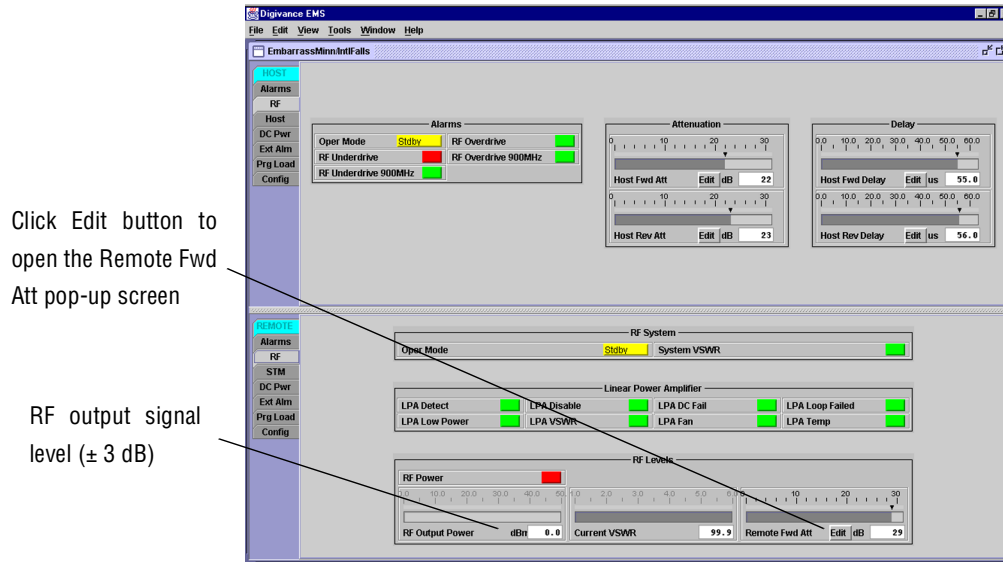
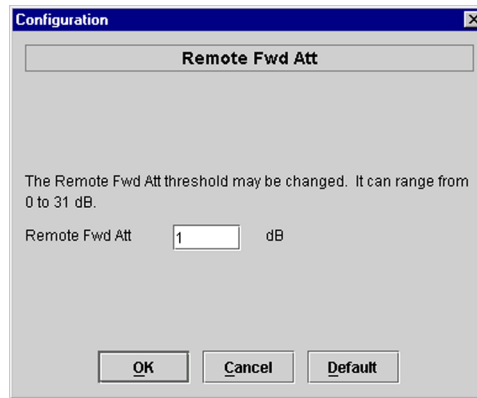

Figure 3-10. REMOTE LPA Display
Figure 3-11. Remote Fwd Att Pop-Up Screen
1. Click on the **REMOTE RF** tab. The **REMOTE RF** display will open within the EMS main window as shown in Figure 3-10.
4. Click on the **Remote Fwd Att** field **Edit** button (see Figure 3-10). The **Remote Fwd Att** pop-up screen will open as shown in Figure 3-11.
6. Verify that the appropriate RF output signal level appears in the **RF Output Power** field (see Figure 3-10). This is primarily a reference value and should not take the place of external test equipment when determining the power level of the composite RF output signal. Depending on the modulation type and number of channels, the EMS software may report a power level that is higher or lower (± 3 dB) than the actual RF output signal.